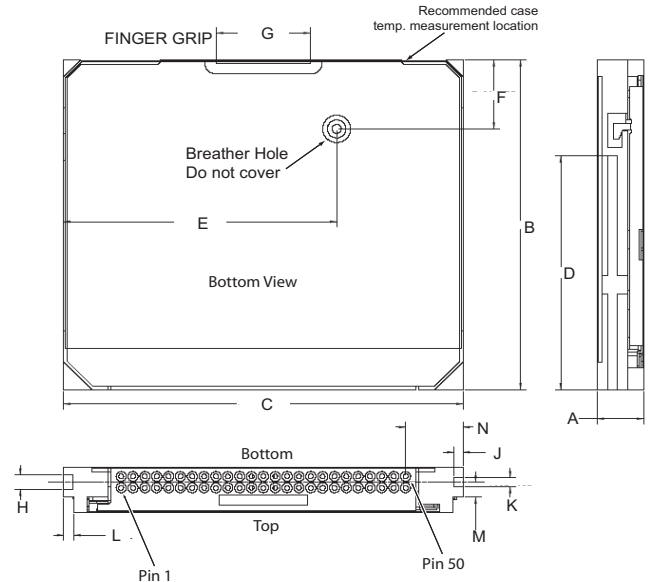
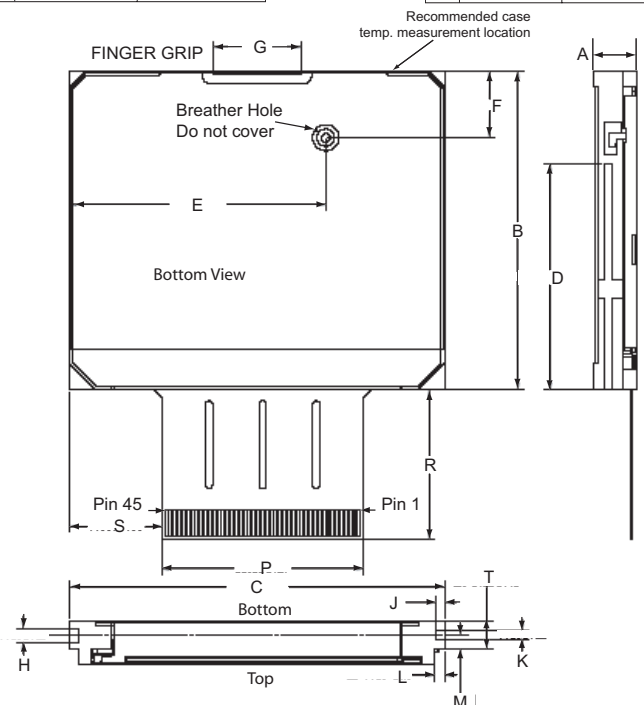

Figure 2 ST1 Series - CF+ dimensions—end, top, and side views.
Figure 3 ST1 Series - FX dimensions—end, top, and side views
- Do not cover or otherwise obstruct the breather hole on the top of the drive. (See Figure 2 and Figure 3)
**Note.** This drive is designed for a product that supplies interface signals and +3.3V power through the compact flash connector. Refer to your consumer products manual to determine if your Seagate ST1 Series disc drive is compatible. See Figure 2 for drive dimensions.
Follow installation instructions for media devices provided in your product's user manual to determine if your Seagate ST1 Series disc drive is compatible. See Figure 3 for drive dimensions. Follow all handling precautions/electrostatic discharge protection suggestions when installing any drive.